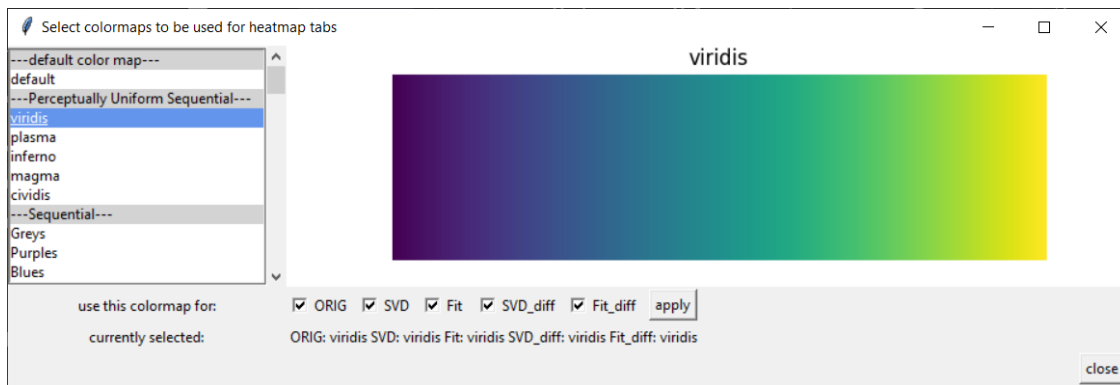

Figure 0.15 – Window to select the colormaps to be used for the heat maps of the data matrices.
Via the *set colormaps for heatmaps*-button in ⑨ the window in fig. 0.15 is opened. In this window a colormap can be chosen by clicking on its name in the listbox. The selected colormap then gets displayed in the window. If the user likes a colormap, they can decide to which heat maps it should be applied to via